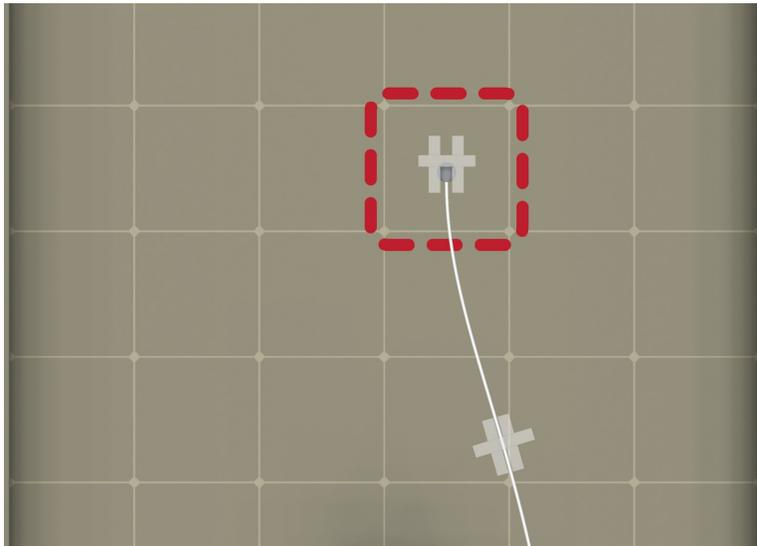

Figure 7-5. Proper tape usage
2. Place the other strips of tape perpendicular and on top of the first strip of tape and rub the tape surface to remove bubbles. These strips of tape should form an H (Figure 7-5 [p. 16]).